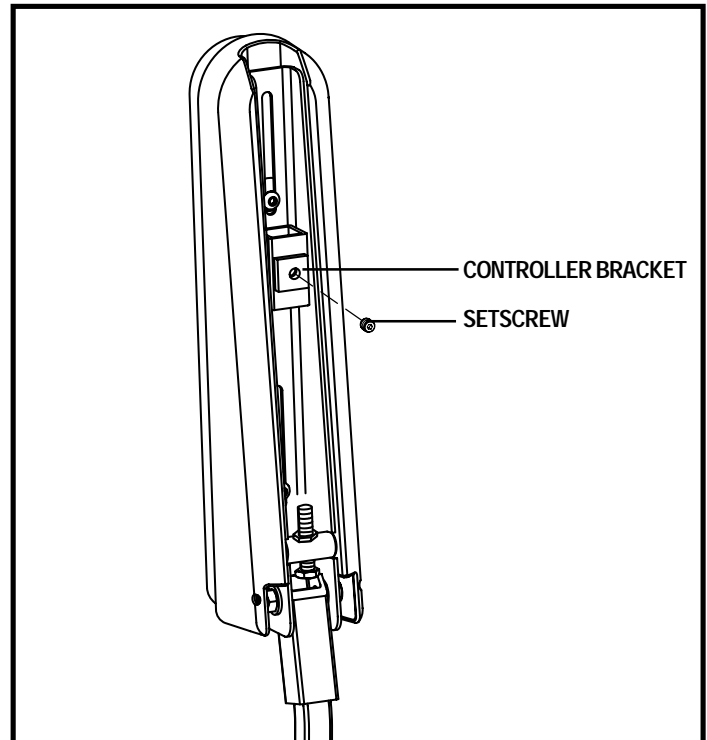

Figure 16. Underside of Armrest
2. Loosen the setscrew on the controller bracket. See figure 16.
4. Flip up the armrest and loosen the setscrew. See figure 16.